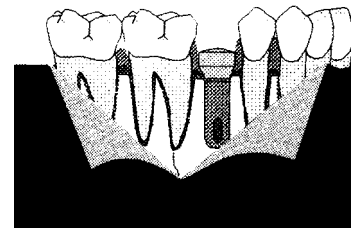

Fig 3
3. A Temporary Healing Abutment is placed at second stage surgery (Fig. 3). This temporary healing abutment may be either a standard 4.5mm diameter or one of our Natural Profile Healing Abutments used to establish emergence profile contours of the final restoration. The placement of the Healing Abutment will allow the gingival tissues to heal for proper contouring of the final restoration. The Healing Abutment is left in place for four to six weeks. A large hex driver (905028) or a slotted driver (905046) is the correct driver for this procedure.